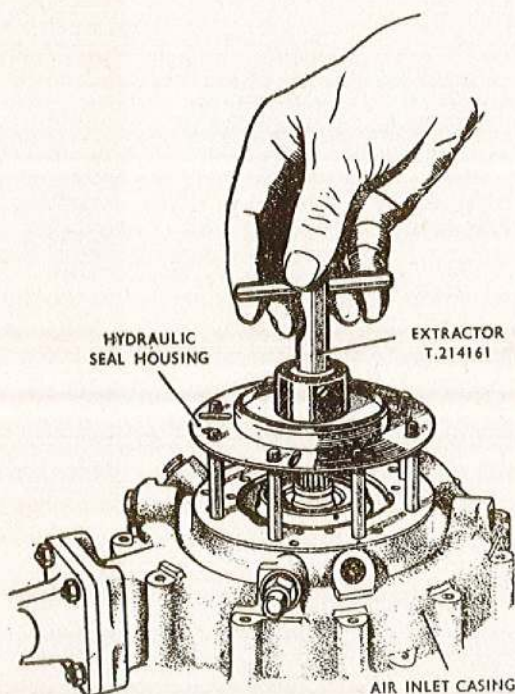

Fig. 7. Removing the hydraulic seal housing
47. Use the extractor T.214161 as shown in fig. 7 to remove the hydraulic seal housing, the internal bore of which is threaded to take the extractor; screw in the extractor and pull the housing free from the air intake casing.